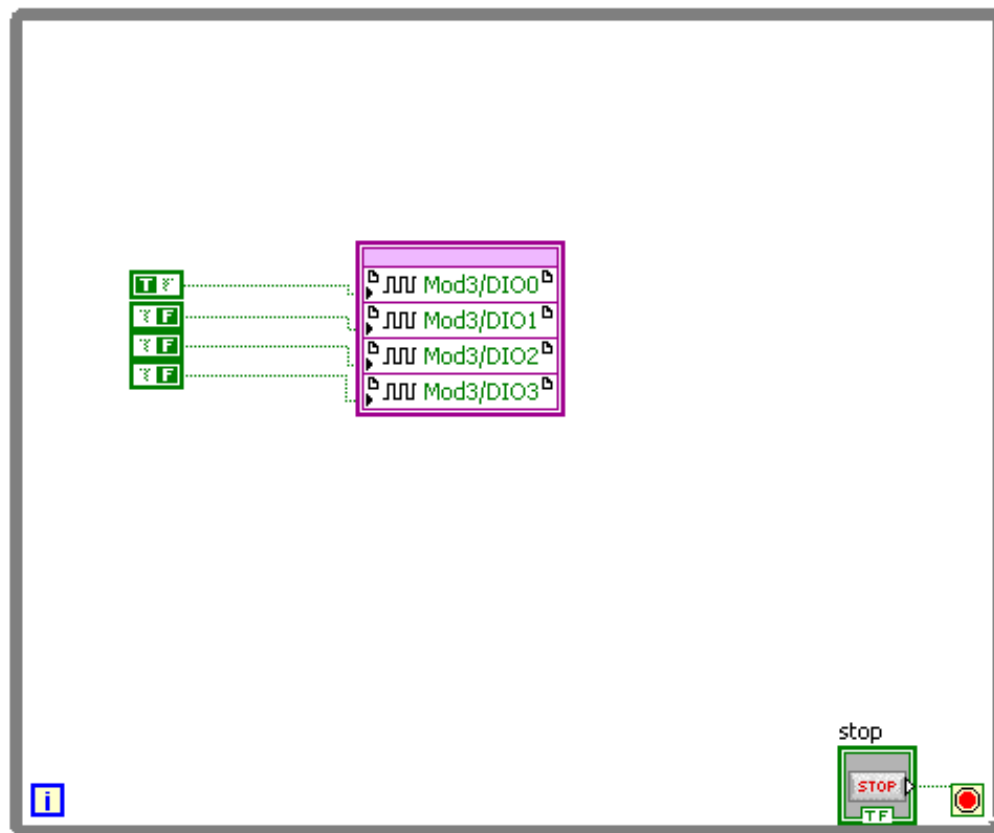

Figure A10 – VI for the Digital I/O Module Example
13. Wire one true constant to one DIO input (See Figure A10)
14. Hover over step sign and right click → Create Control, a Stop Button will appear and the entire Block Diagram will look like Figure A10.